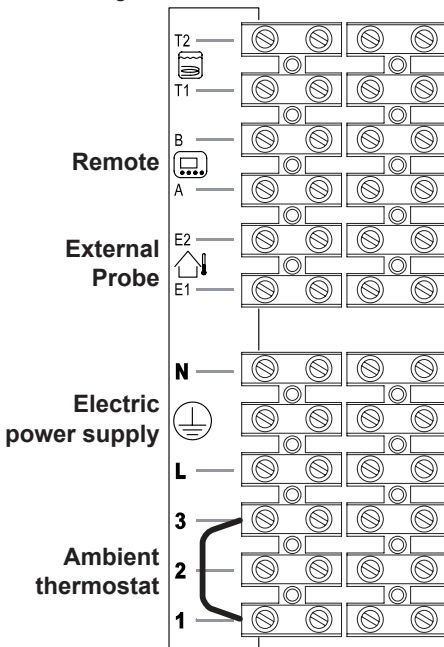
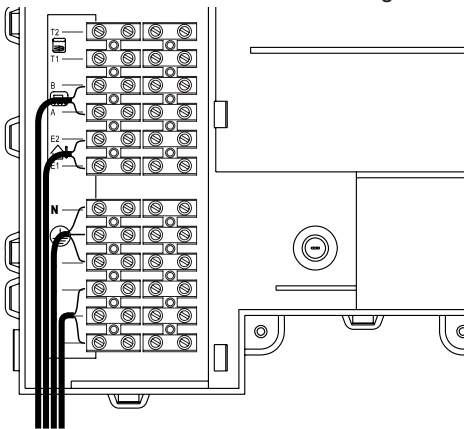
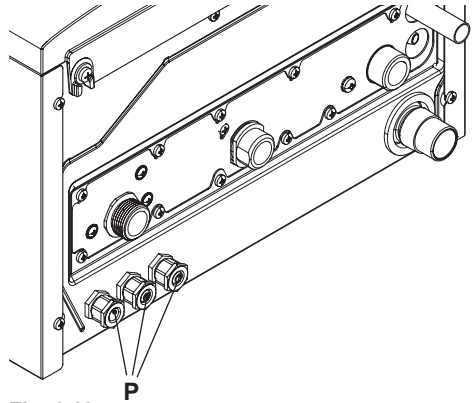

Fig. 6.17
Fig. 6.18
Fig. 6.19
- Connect the electric power supply cable coming from the fused spur isolation switch to the power supply terminal block of the boiler Fig. 6.17 keeping the same connections for the live (brown wire) and the neutral (blue wire). External 3A fuse or fused plug with same current rating is recommended.
The route of the boiler and ambient thermostat's electric power supply cable or wires must follow the route indicated in Fig. 6.18.
Allow the cables to exit the boiler by using the relevant cable clamps "P" (Fig. 6.19).
Use the clamps indicated in Fig. 6.17 to connect the ambient thermostat.
Use the ambient thermostat's clamps indicated in Fig. 6.17 and Fig. 6.18 to connect the zone valve. Insert the electric cables of the zone valve's micro switch contacts in clamps "1 and 3" of the ambient thermostat's terminal block as in Fig. 6.18.
The route of the boiler and ambient thermostat's electric power supply cable or wires must follow the route indicated in Fig. 6.18. Allow the cables to exit the boiler by using the relevant cable clamps "P" (Fig. 6.19).
The route of the external probe's connection wires must follow the route indicated in Fig. 6.18.
The route of the remote control cable must follow the route indicated in Fig. 6.18.